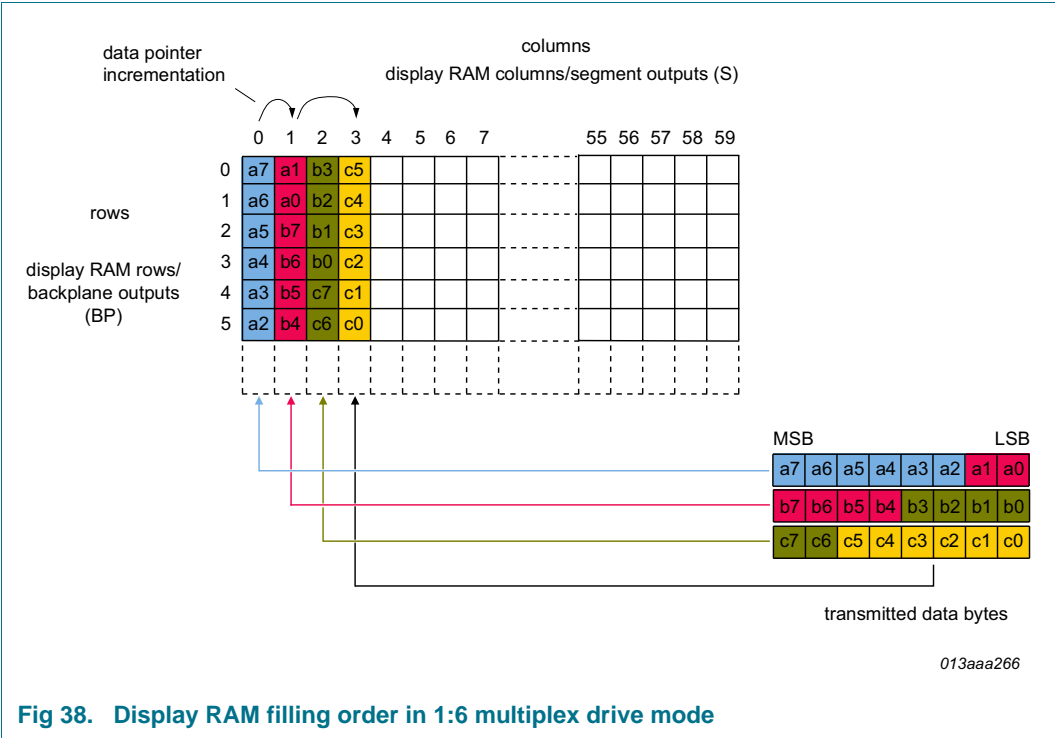

Fig 38. Display RAM filling order in 1:6 multiplex drive mode
- by one or two (1:6 multiplex drive mode), see Figure 38 on page 48
In the 1:6 multiplex drive mode the RAM is organized in six rows and 60 columns. The eight transmitted data bits are placed in such a way, that a column is filled up (see Figure 38).